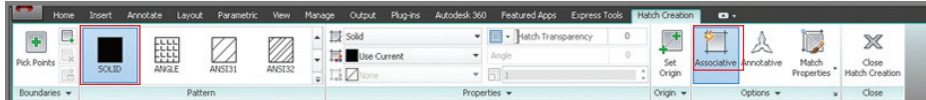

FIGURE 8.3 Using ribbon controls when creating a hatch
4. A temporary contextual tab called Hatch Creation appears on the ribbon. This tab will remain active while you configure the hatch object that you are creating. Click Solid in the Pattern panel, and turn off Associative mode if it is on by clicking its button in the Options panel (see Figure 8.3). (You'll learn about associative hatches in the next section.)